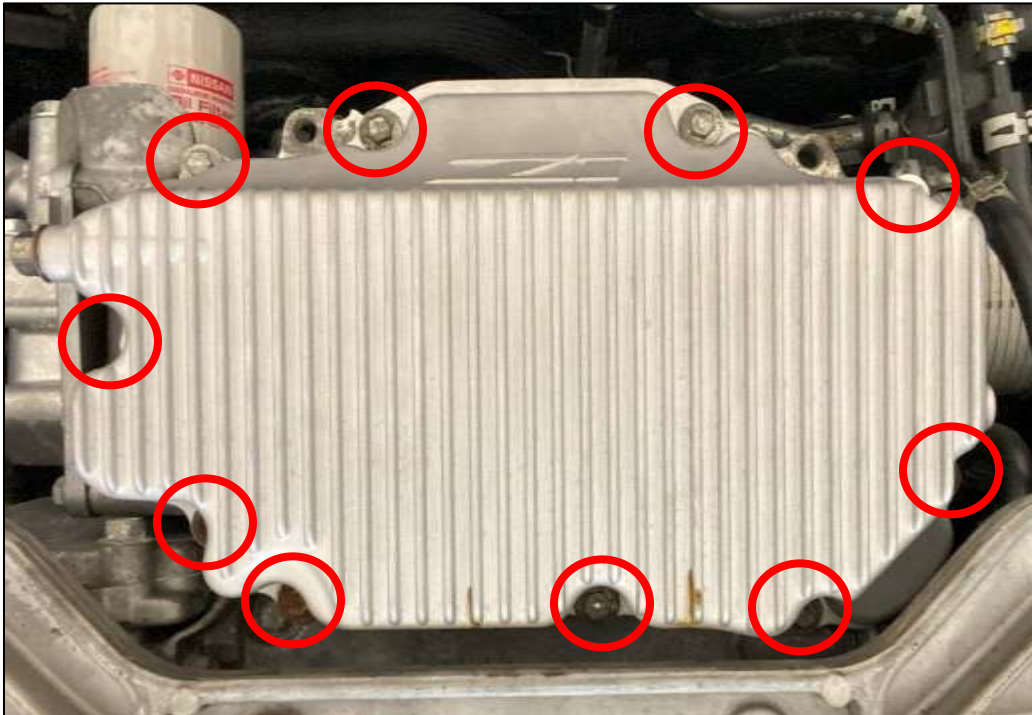

Figure 5
9. Position the Z1 Oil Pan into position on the engine, loosely secure with the hardware removed in *Step 5*. *Figure 5*.